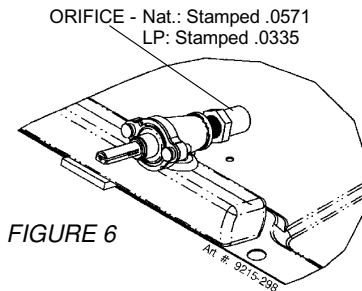

FIGURE 6
- Remove all (4) surface burners.
- Remove all (4) orifice hoods (figure 6) from the valve by using a 1/2 wrench or socket and turning the hood counter-clockwise.